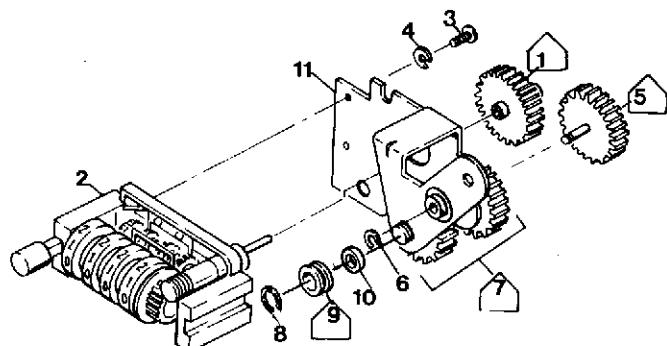

Figure 3-15. FILM COUNTER COMPLETE
**3. Film Counter Complete (Fig.3-15)**
- a. Lubricate interfaces of idler gear assembly shaft (7) and bearing (9) with Teresstic N-75 oil.
- b. When gear (5) is rotated, entire gear train and counter must operate freely and smoothly.